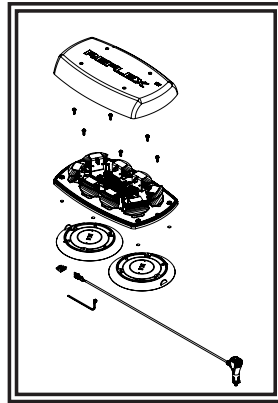

Figure 5
3. Place an internal star washer onto the enclosed M5 x 20 hex bolt and insert the hex bolt through the hole in the cup magnet as shown. Hold the magnet/bolt assembly with the bolt extended through the magnet as far as possible and feed the hex nut and the shank of the bolt through one of the openings at the 4 corners of the underside of the minibar base. Maintain tension on the bolt/nut by holding onto the cup magnet while tightening the assembly. Repeat this process for all four corners. See Figure 5.